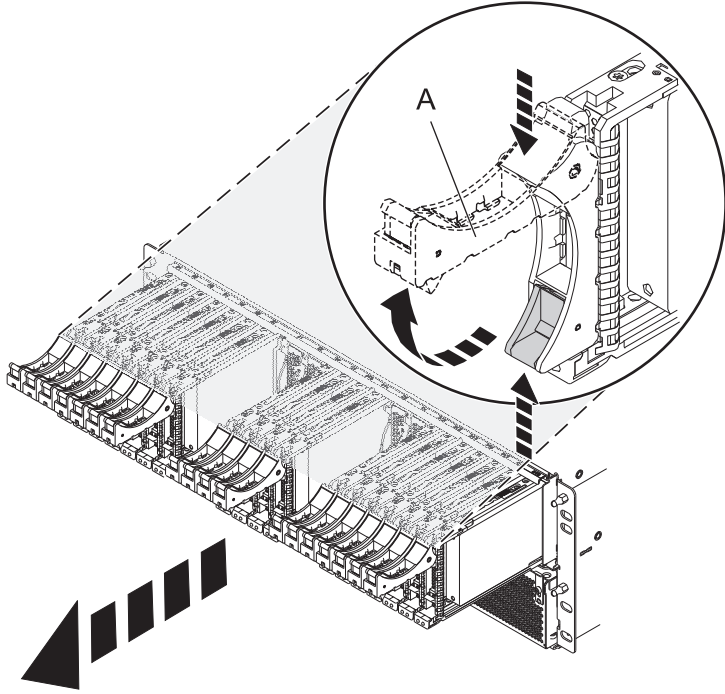

Figure 1. Removing the disk drives from the disk drive backplane
8. Remove the disk drives and fillers from the disk drive backplane in the 5802 expansion unit as shown in Figure 1 on page 3.